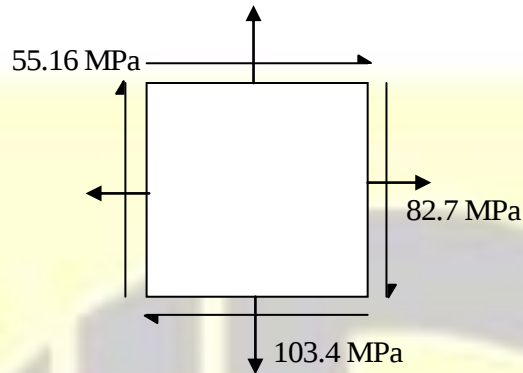

Figure 2
- (d) A plane element in a body is subjected to stresses as shown in Figure 2. Determine the principal stresses and maximum shear stresses and the planes on which they act. Indicate them in separate sketches.